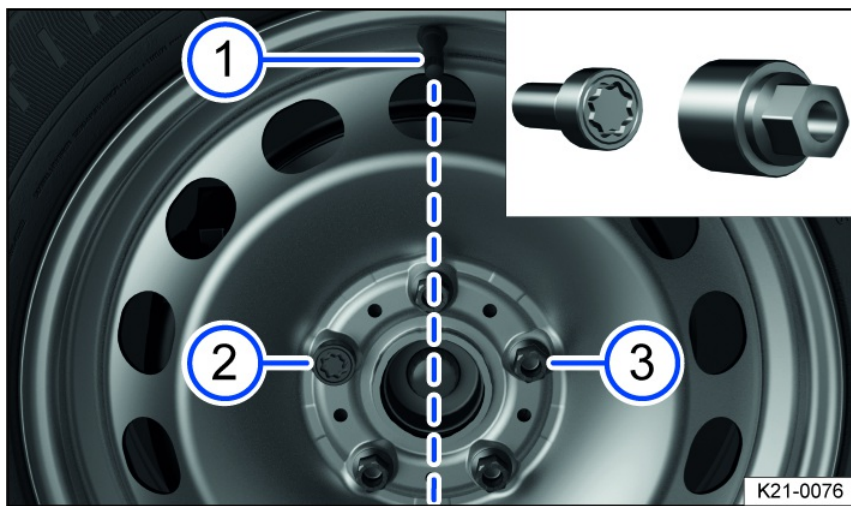

Fig. 156 Changing a tire: tire valve ① and locations of the anti-theft wheel bolt ② or ③.
On wheels with full wheel covers, the anti-theft wheel bolt must be fitted in position *fig. 156* ② or ③, based on the position of the tire valve ①. Otherwise, it will not be possible to install the full wheel cover.